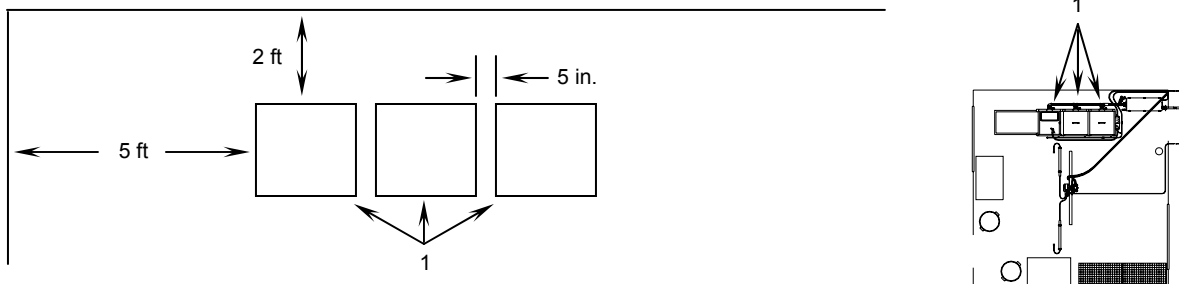

Figure 10. Base Rack Placement.
- a. Place the three base racks (Figure 10, Item 1) in the approximate final sink position. The left base rack should be about 5 feet from the side tent wall. All three base racks should be about 2 feet from the back tent wall and about 5 inches apart from each other.